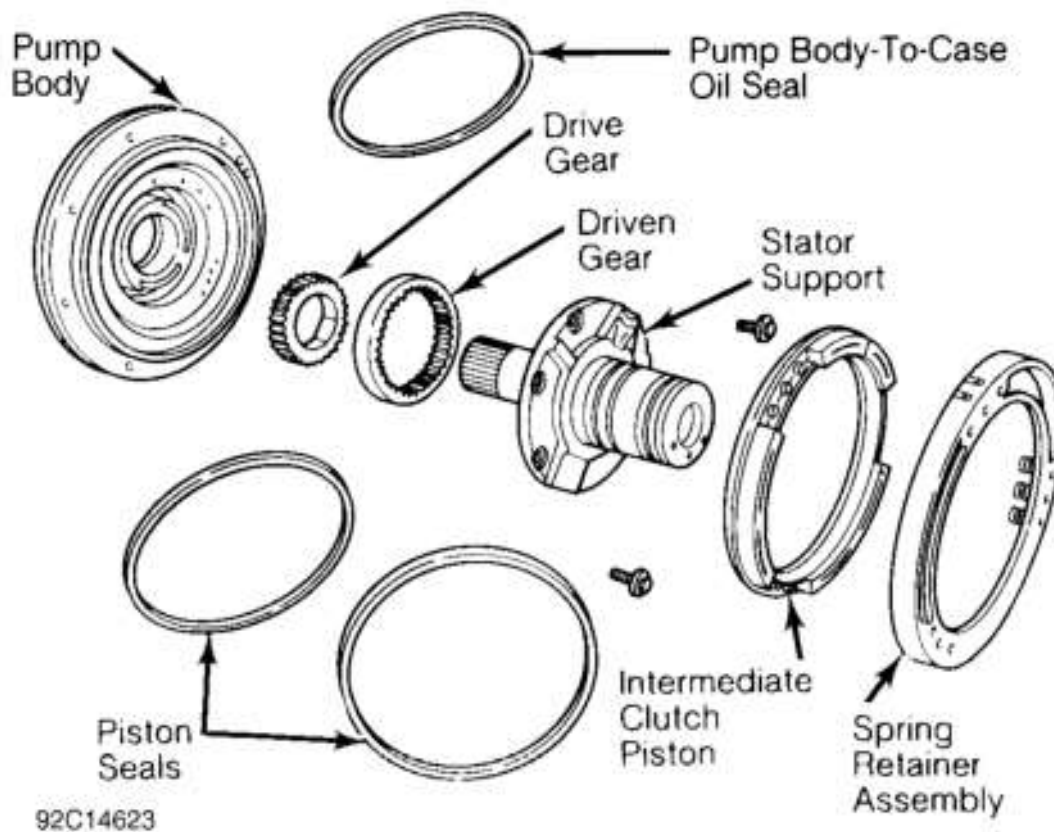

Fig. 40: Exploded View of Oil Pump & Intermediate Clutch
1. Lift No. 1 thrust washer from stator support. Remove 4 seal rings from stator support. Remove pump body-to-case seal and discard. See **Fig. 40**.